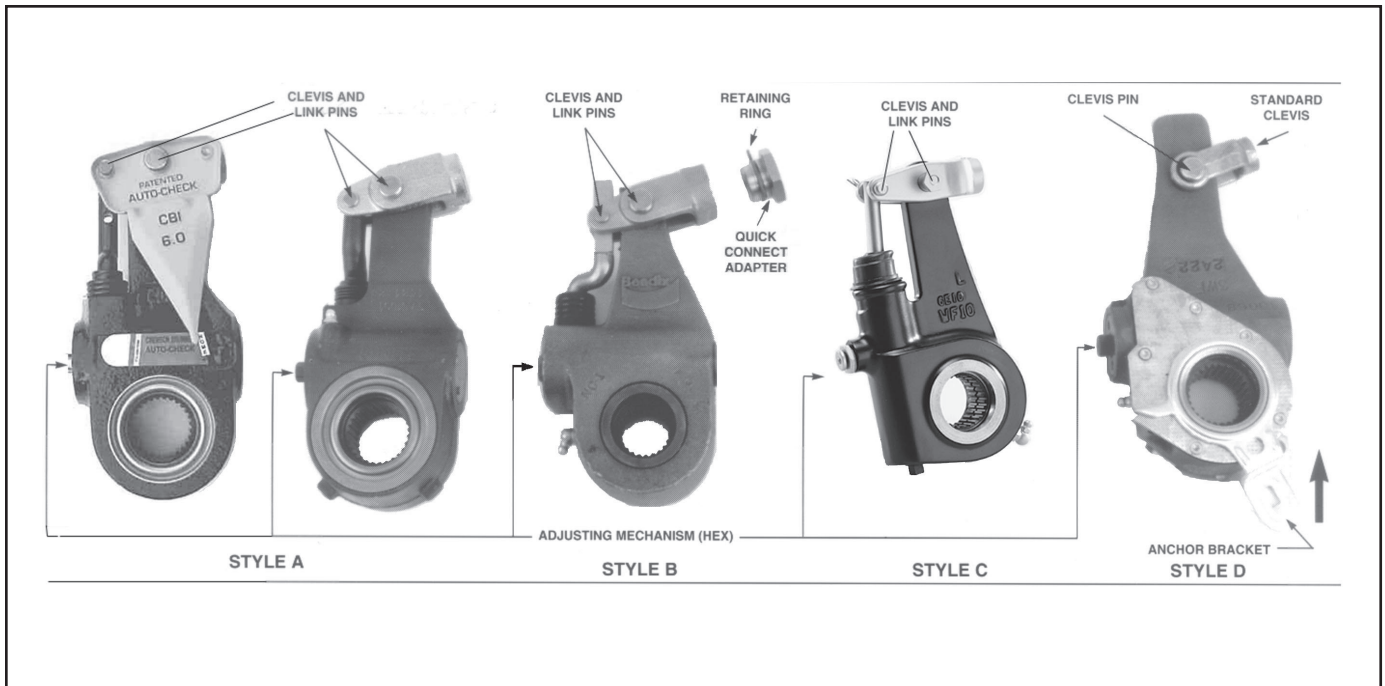

Fig. 2: Self-Adjusting Brake Adjuster Types
1. Remove the clevis and link pins and the anchor bracket nut or pawl, if necessary (see Fig. 2).
- 7A. Rotate the adjusting mechanism to either install a clevis and link pin or to connect the clevis with a quick connect nut (see Fig. 2, Styles A, B, and C).
- 8A. Using the correct gauge or template, (see Fig. 2, Styles A, B, and C) check for the proper mounting angle. Adjust the clevis for the correct angle, if necessary.
- 8B. Make sure the control arm is bottomed out in the direction of the arrow or if the control arm has a pointer, align with the cut-out gap provided (see Fig. 2, Style D) and then secure all anchor bracket hardware.